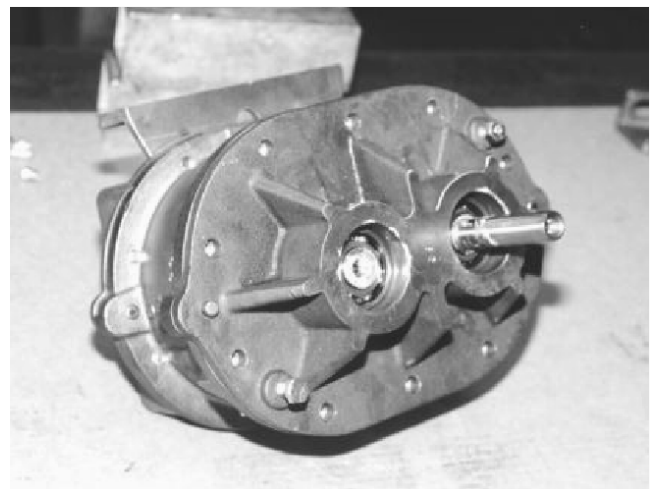

Figure 8. Pulling Drive End Plate.
- h. Use jackscrews to remove end plate. Refer to Figure 8 below.